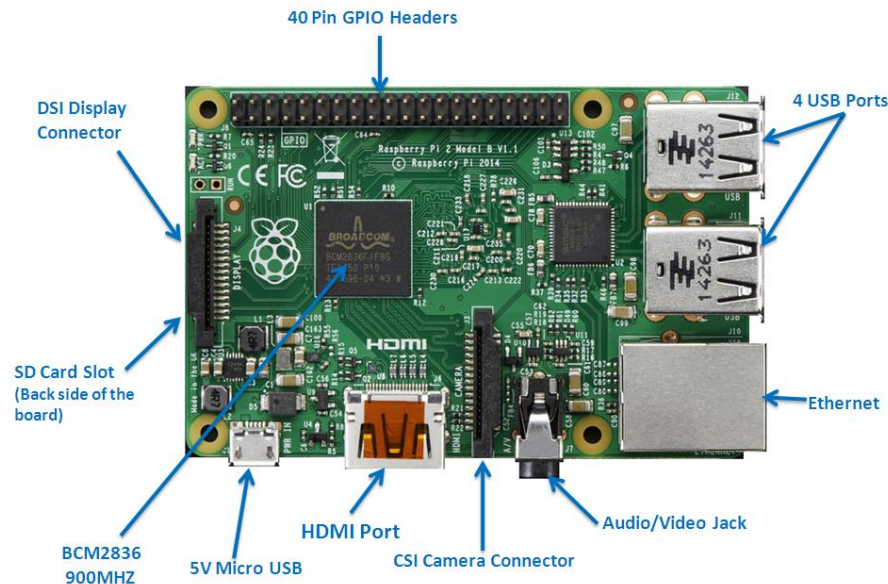

Figure 2 - Raspberry Pi 2 Model B
- After installation you need to have the application like figure 2. [5]